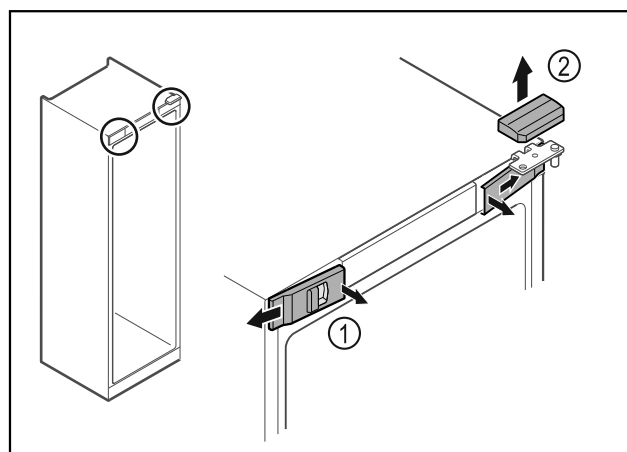

Fig. 11
- Unlatch the front covers Fig. 11 (1) on the inside and remove them sideways.
- Lift off the upper cover Fig. 11 (2).